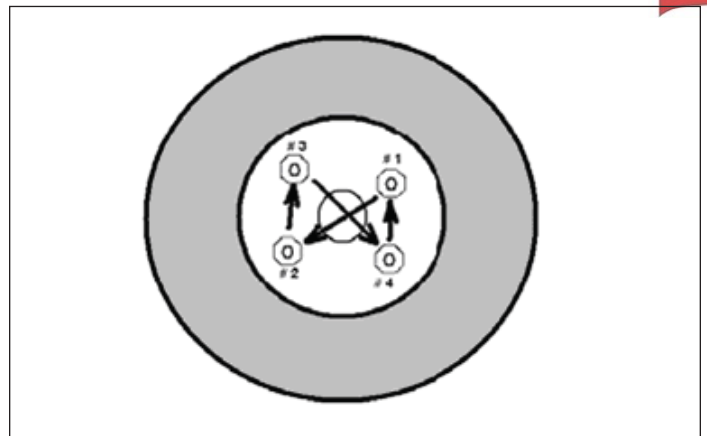

Figure 6-2. Lug Nut Tightening Pattern
5. Tighten four lug nuts by hand and wrench until snug using a criss-cross pattern (Figure 6-2).
11. Tighten four lug nuts by hand and wrench until snug using a criss-cross pattern (Figure 6-2).